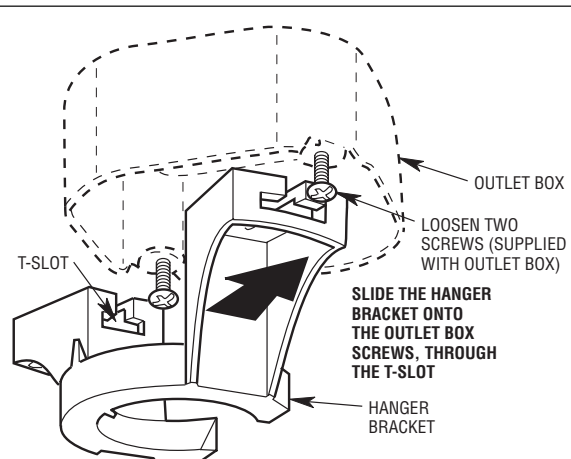

Figure 2
2. Loosen (but do not remove) the two mounting screws in the outlet box (Figure 2). Position the hanger bracket on the outlet box so that the T-slots in the hanger bracket are aligned with the outlet box screws.